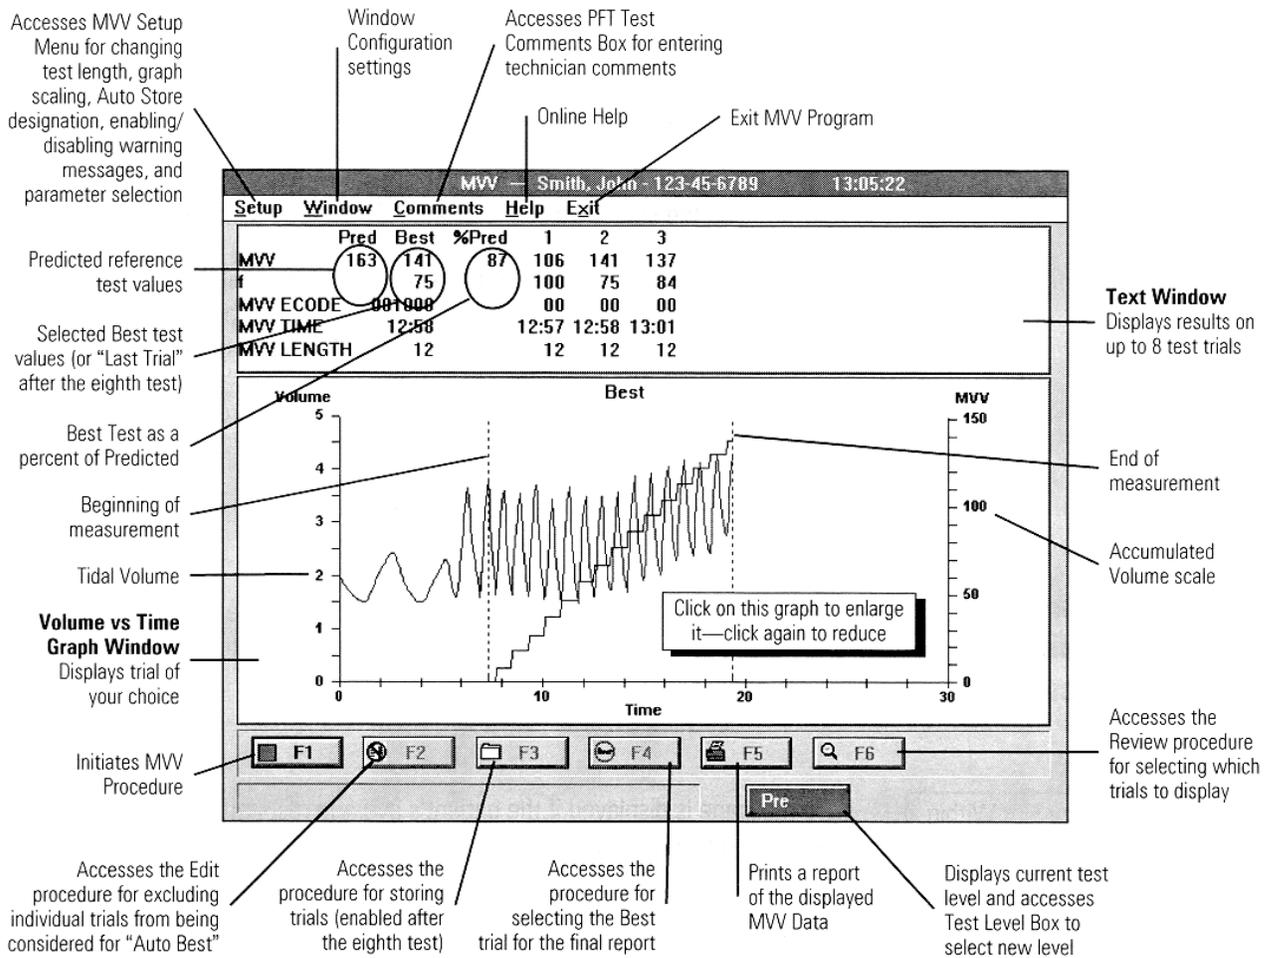

Figure 5-4 – Maximum Voluntary Ventilation Test Screen
3. Select **2 MVV**. The **Maximum Voluntary Ventilation Test** screen will be displayed (Figure 5-4).